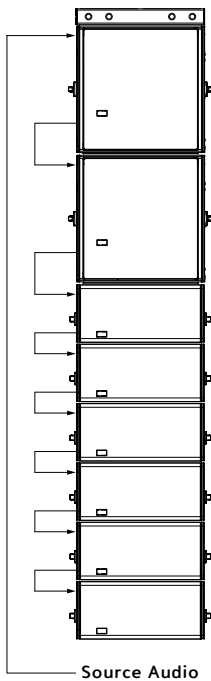
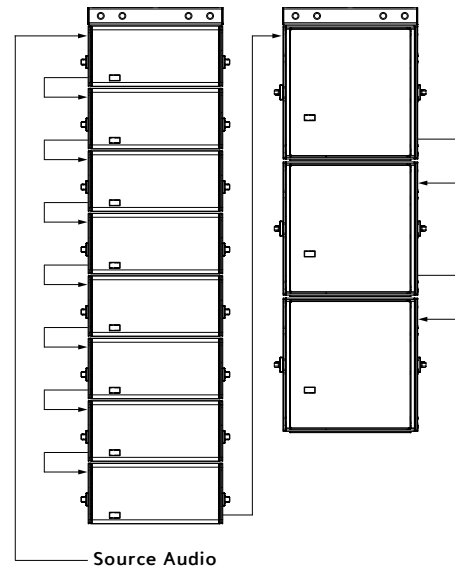
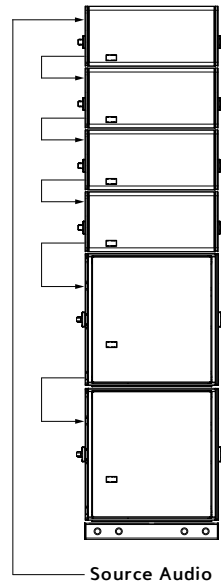

Figure 4: Flown Mixed Array (ratio 3:1)
Figure 5: Flown Separate Arrays (ratio 8:3)
Figure 6: Mixed Groundstack (ratio 2:1)
- Flown mixed arrays of LINA and 750-LFC loudspeakers (Figure 4)
- Flown separate arrays of LINA and 750-LFC loudspeakers (Figure 5)
- Mixed groundstacks of LINA and 750-LFC loudspeakers (Figure 2, right and Figure 6)
For LINA applications, the ratios shown in Figure 4, Figure 5, and Figure 6 yield good results.